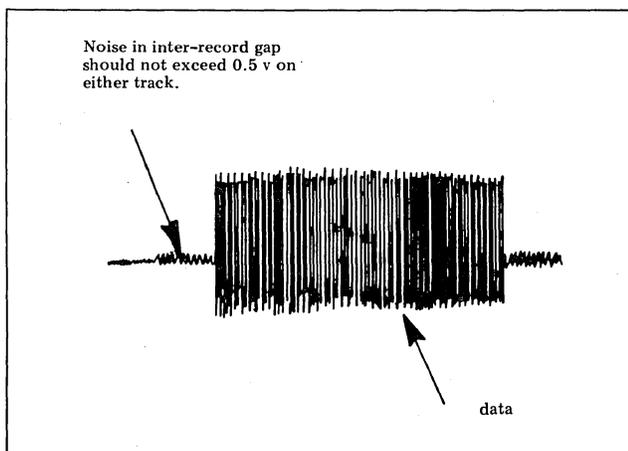

Figure 5-7. Vertical Alignment
12. For vertical alignment, set the oscilloscope to "chopped" and 1 v/division on channels A and B. Check the inter-record gap for noise (Figure 5-7). Less than 0.5 v pk-pk is desirable.